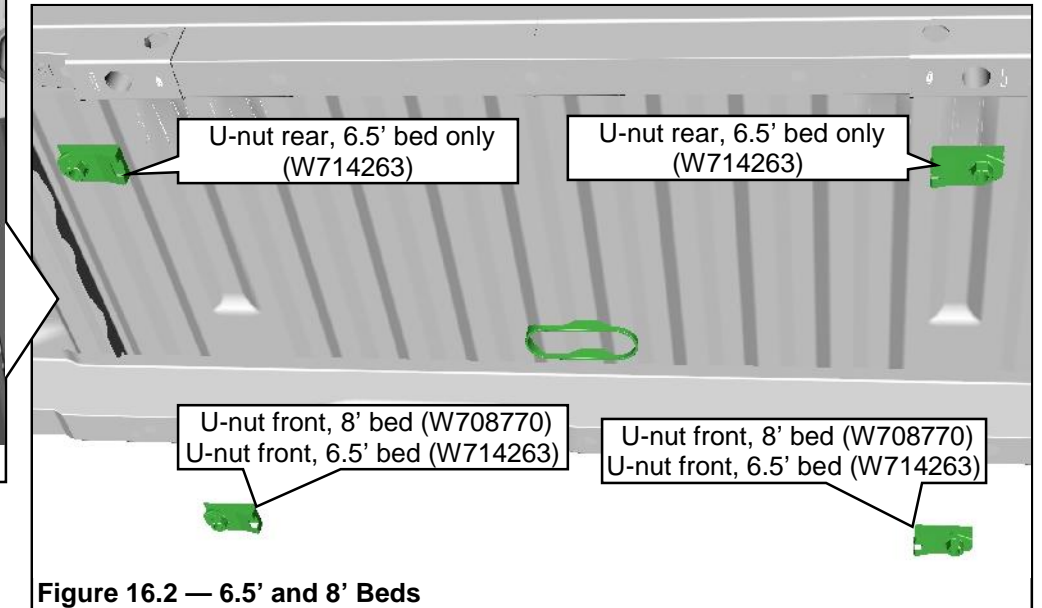

Figure 16.2 — 6.5' and 8' Beds
- At the correct locations, install new U-nuts into the bed crossmembers as shown. **Figure 16.2.**